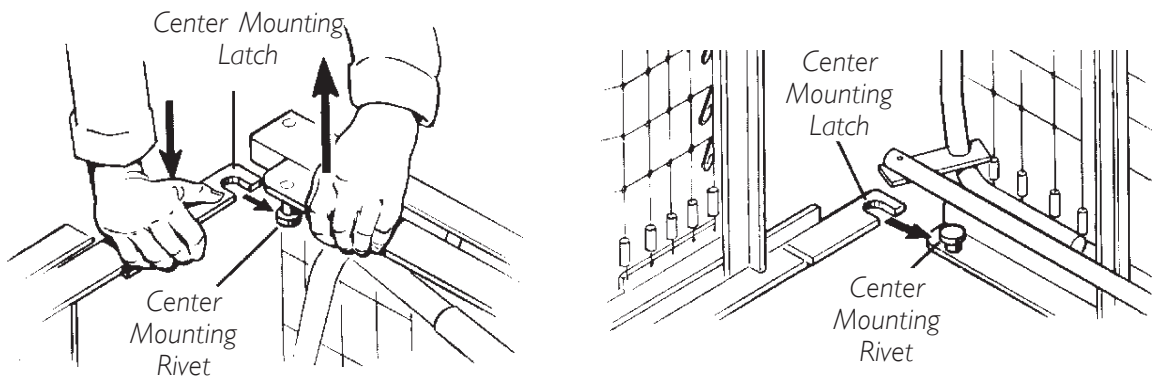

FIGURE 2 - CONNECTING THE HEAD/FOOT SPRING SECTIONS
7. Hook the BOTTOM head spring center mounting latch to the BOTTOM foot spring center mounting rivet. Refer to FIGURE 2.
8. Hook the TOP head spring center mounting latch to the TOP foot spring center mounting rivet. Refer to FIGURE 2.